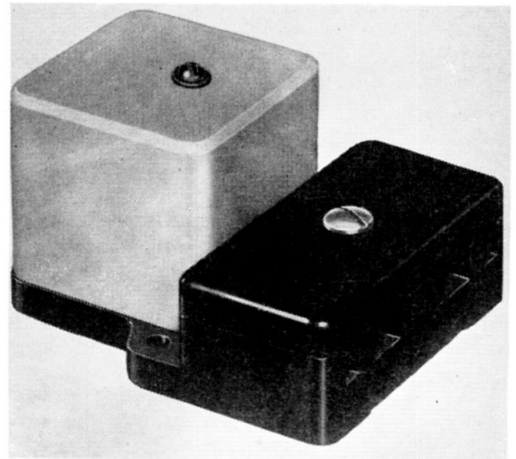
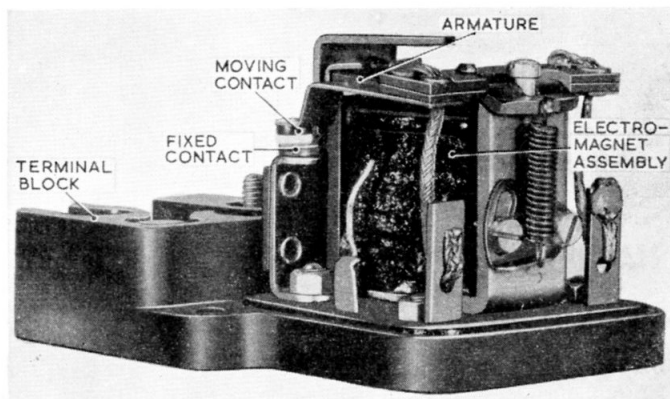

Fig. 1. Magnetic switch, Type 9B, No. 1
Fig. 2. Switch with covers removed
2. The switch (*fig. 1*) incorporates an electro-magnet operating two pairs of normally-open contacts. As can be seen in *fig. 2*, the two moving contacts are secured to an insulating bar fixed to the armature; when the electro-magnet is energized, the armature is attracted to the core, and pulls down with it the moving contact arms. This closes the contacts and completes the operating circuit.